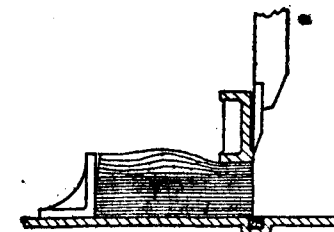

FIG. 6
(5) When cutting wavy papers, the top sheets will always be longer than the bottom sheets, as the latter are pressed flat through the weight of the pile (FIG. 6).